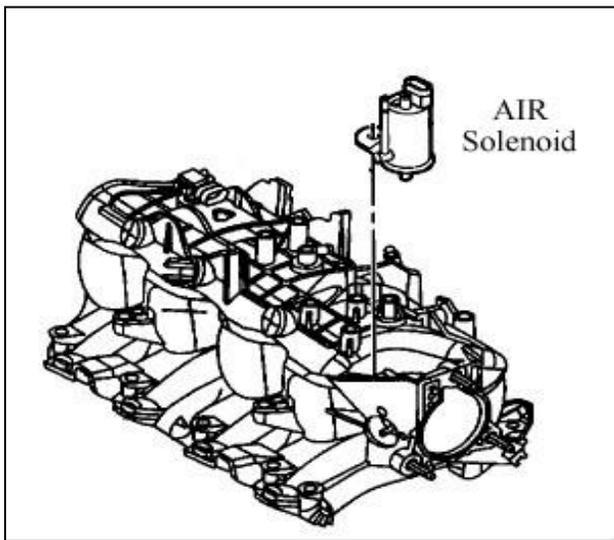

FIGURE 6.8 Air Solenoid
- 3. AIR SOL (not equipped on all models)** - The AIR solenoid is activated by the AIR pump solenoid relay. The AIR solenoid allows intake manifold vacuum to the shut off valve. The shut off valve then opens allowing air flow. **See Figure 6.8**